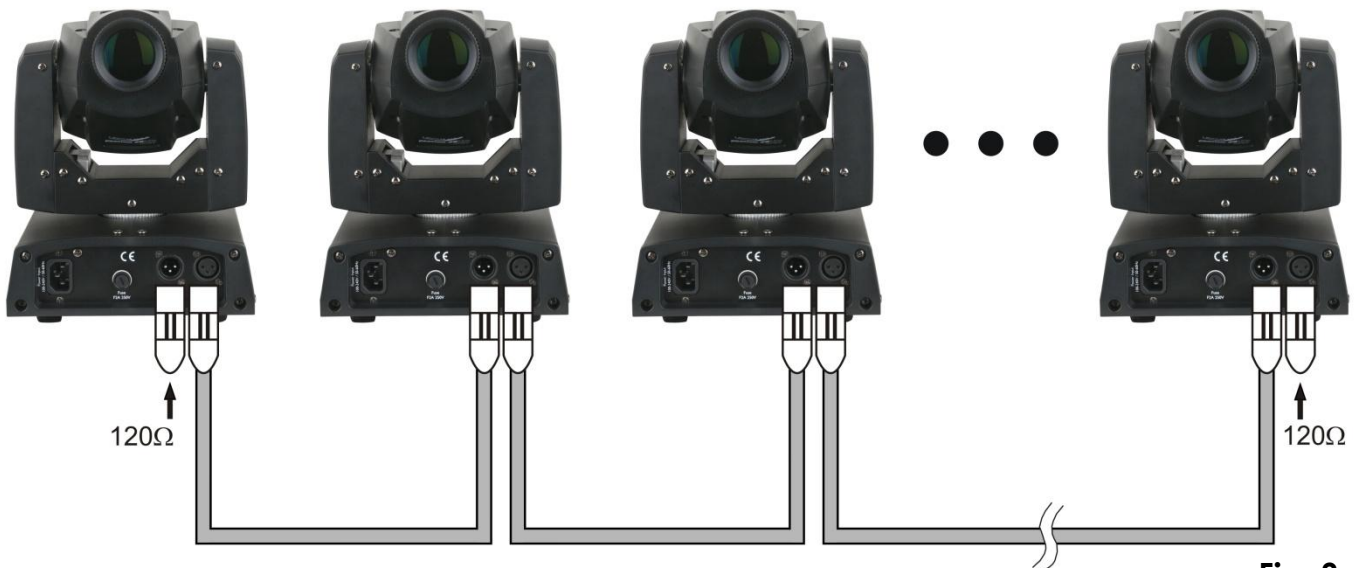

Fig. 3
3. Link the units as shown in (Fig. 3), Connect a DMX signal cable from the first unit's DMX "out" socket to the second unit's "in" socket. Repeat this process to link the second, third, and fourth units. You can use the same functions on the master device as described on page 15 (Built-in Programs, or Music control). This means on the master device you can set your desired operation Mode and all slave devices will react the same as the master device.